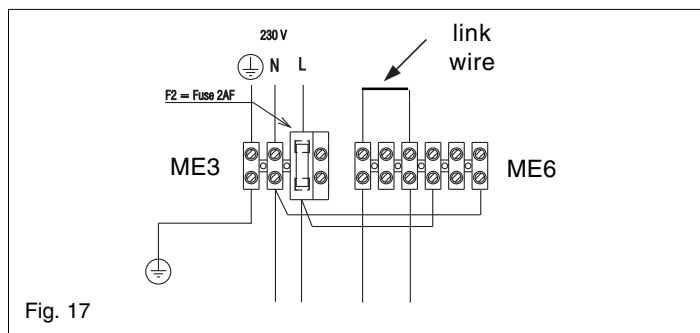

Fig. 17
4.7.3 CONNECTING THE MAINS (230V) INPUT (see fig. 17)
Locate and remove the screw securing the right terminal block cover (230V). Pass the cable through the cable anchorage point. Connect the supply cable wires (LIVE, and NEUTRAL) to their corresponding terminals on the appliance terminal block. Connect the EARTH wire to the EARTH block (see fig. 17) ensuring that it's